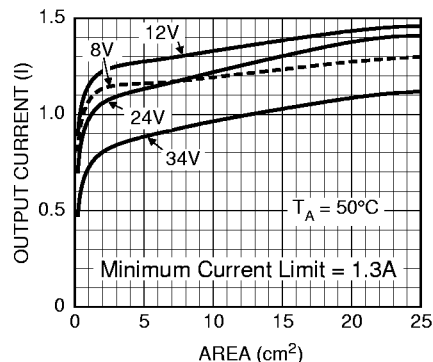

Figure 3. Output Current vs. Ground Plane Area
**Note.** For increased output current, see "Applications Information: Increasing the Maximum Output Current" and Figure 3.
Using Figure 3, for a given input voltage range, determine the minimum ground-plane heat-sink area required for the application's maximum output current. Figure 3 assumes a constant die temperature of 75°C above ambient.